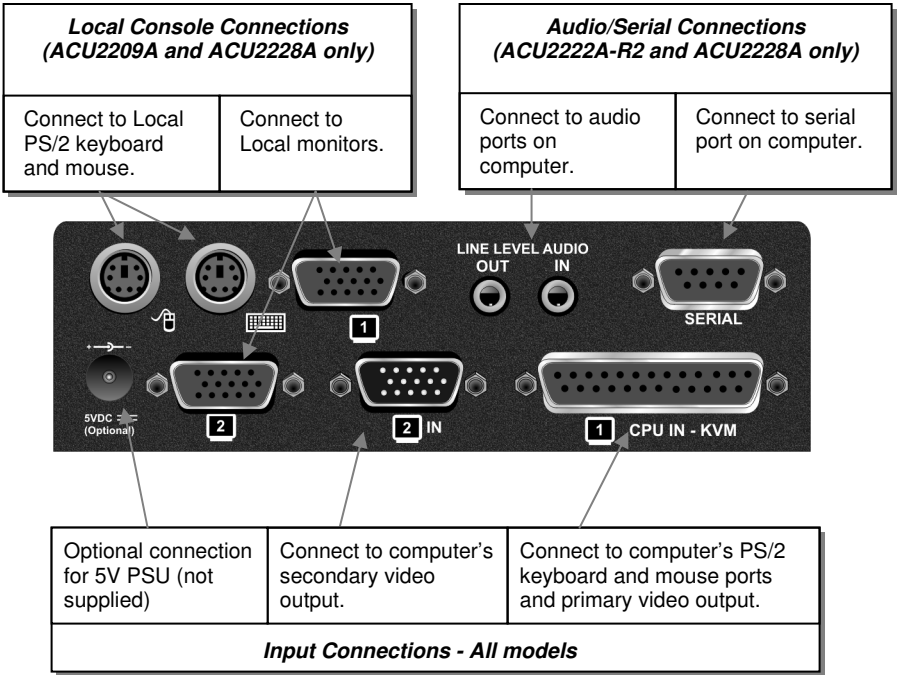

Figure 4 **Local Unit - rear view**
2. Using the supplied CPU KVM cable(s), connect the keyboard, monitor(s) and mouse connectors on the computer (or KVM switch) to the corresponding connectors on the Local unit as shown in Figure 4.